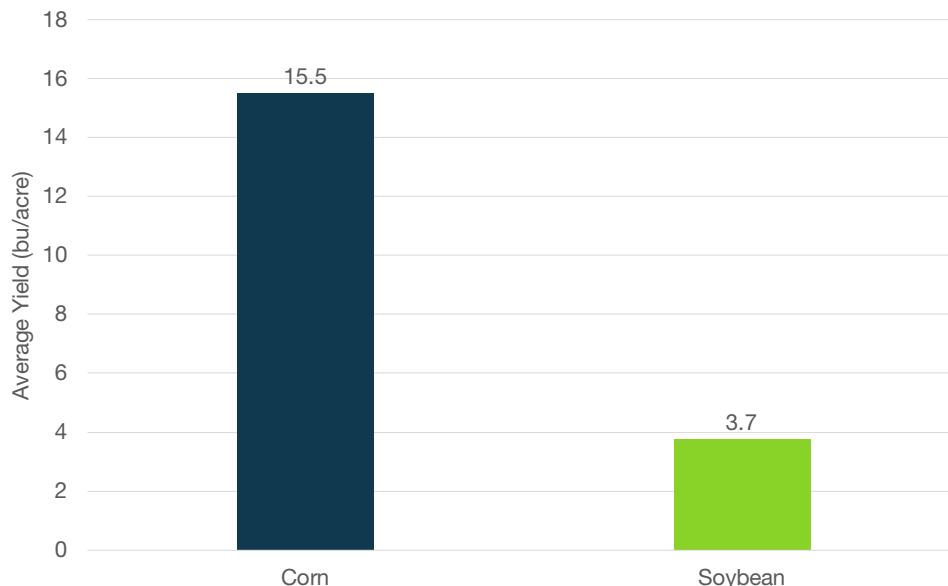

Figure 2. Average yield advantage of strip tillage over conventional tillage in corn and soybean production systems.
- There was a substantial yield difference between tillage systems in both crops, with strip tillage out-yielding conventional tillage (Figure 2).